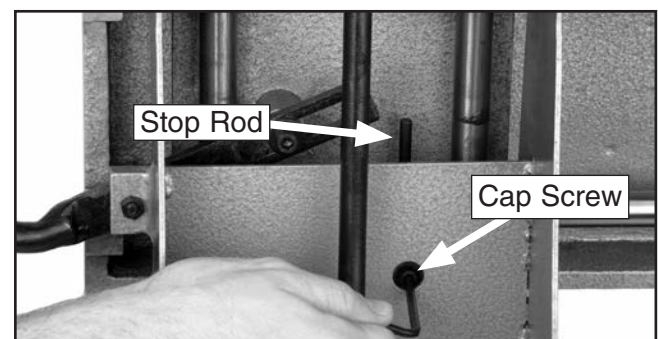

Figure 20. Adjusting center stop rod.
1. Loosen the cap screw shown in **Figure 20** and adjust the center stop rod.